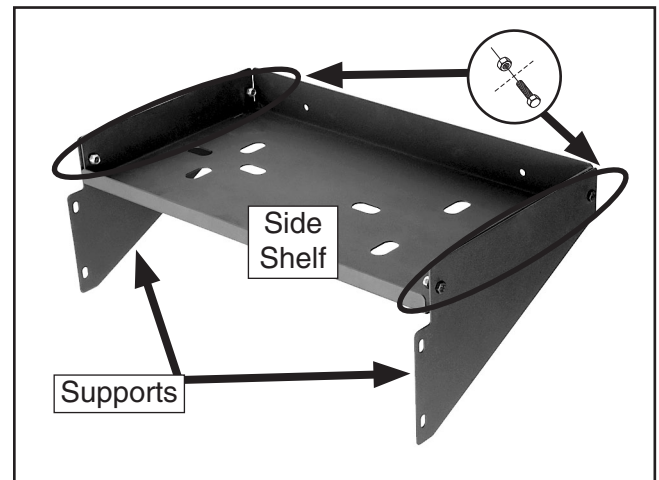

Figure 9. Side shelf supports installed.
- Attach the side shelf supports to the side shelves with 8 hex bolts and lock nuts, as shown in **Figure 9**. Fully tighten these fasteners.